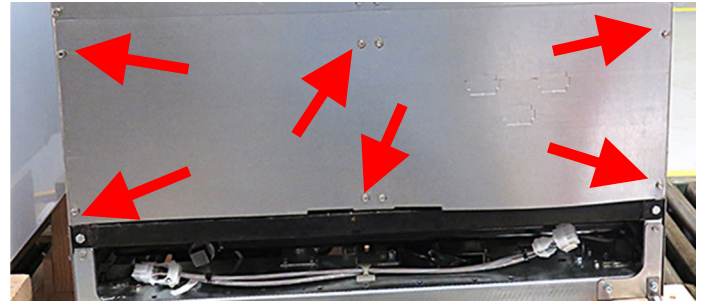

Figure 14
15. Remove the lower back by removing the eight (8) screws (see Figure 14).